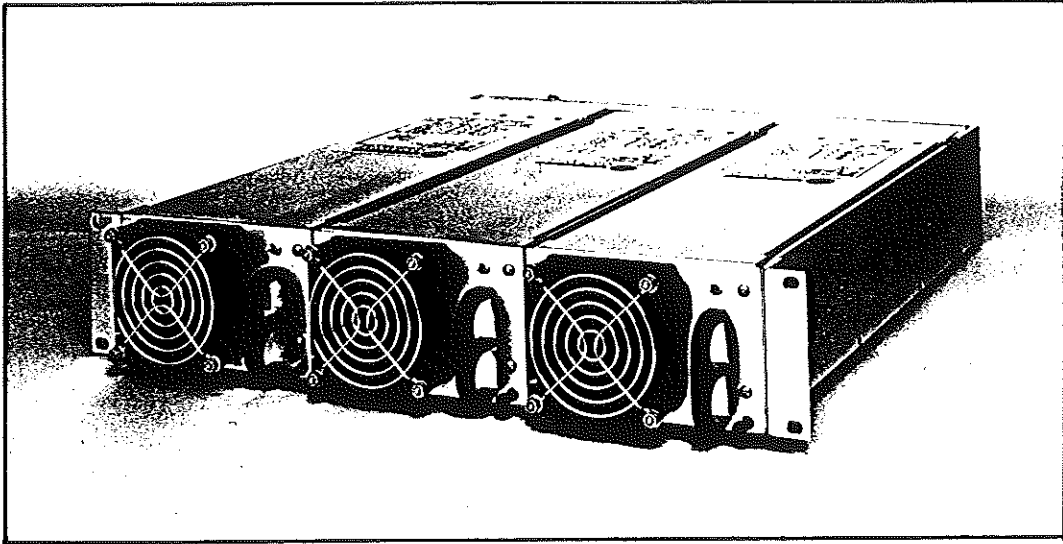

Figure 1. TP Series Hot-Plug Power System
- 1.2 The TP Series is a switching hot-pluggable power system with $N + 1$ redundancy. The standard three-module TP power system is shown in Figures 1 and 2. Other configurations are possible as shown in Figure 3; consult the factory on availability.